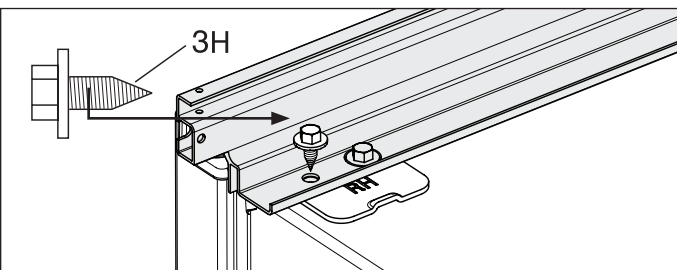

**Figure 10.**
- c. Run screw in all the way and then back out. Remove side trim for later install. (See Figure 10).